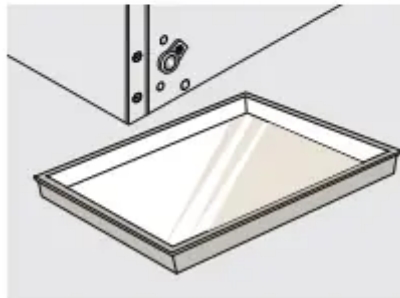

Figure 1C
- For Figure 1C the drain hole is on the face of the cabinet.